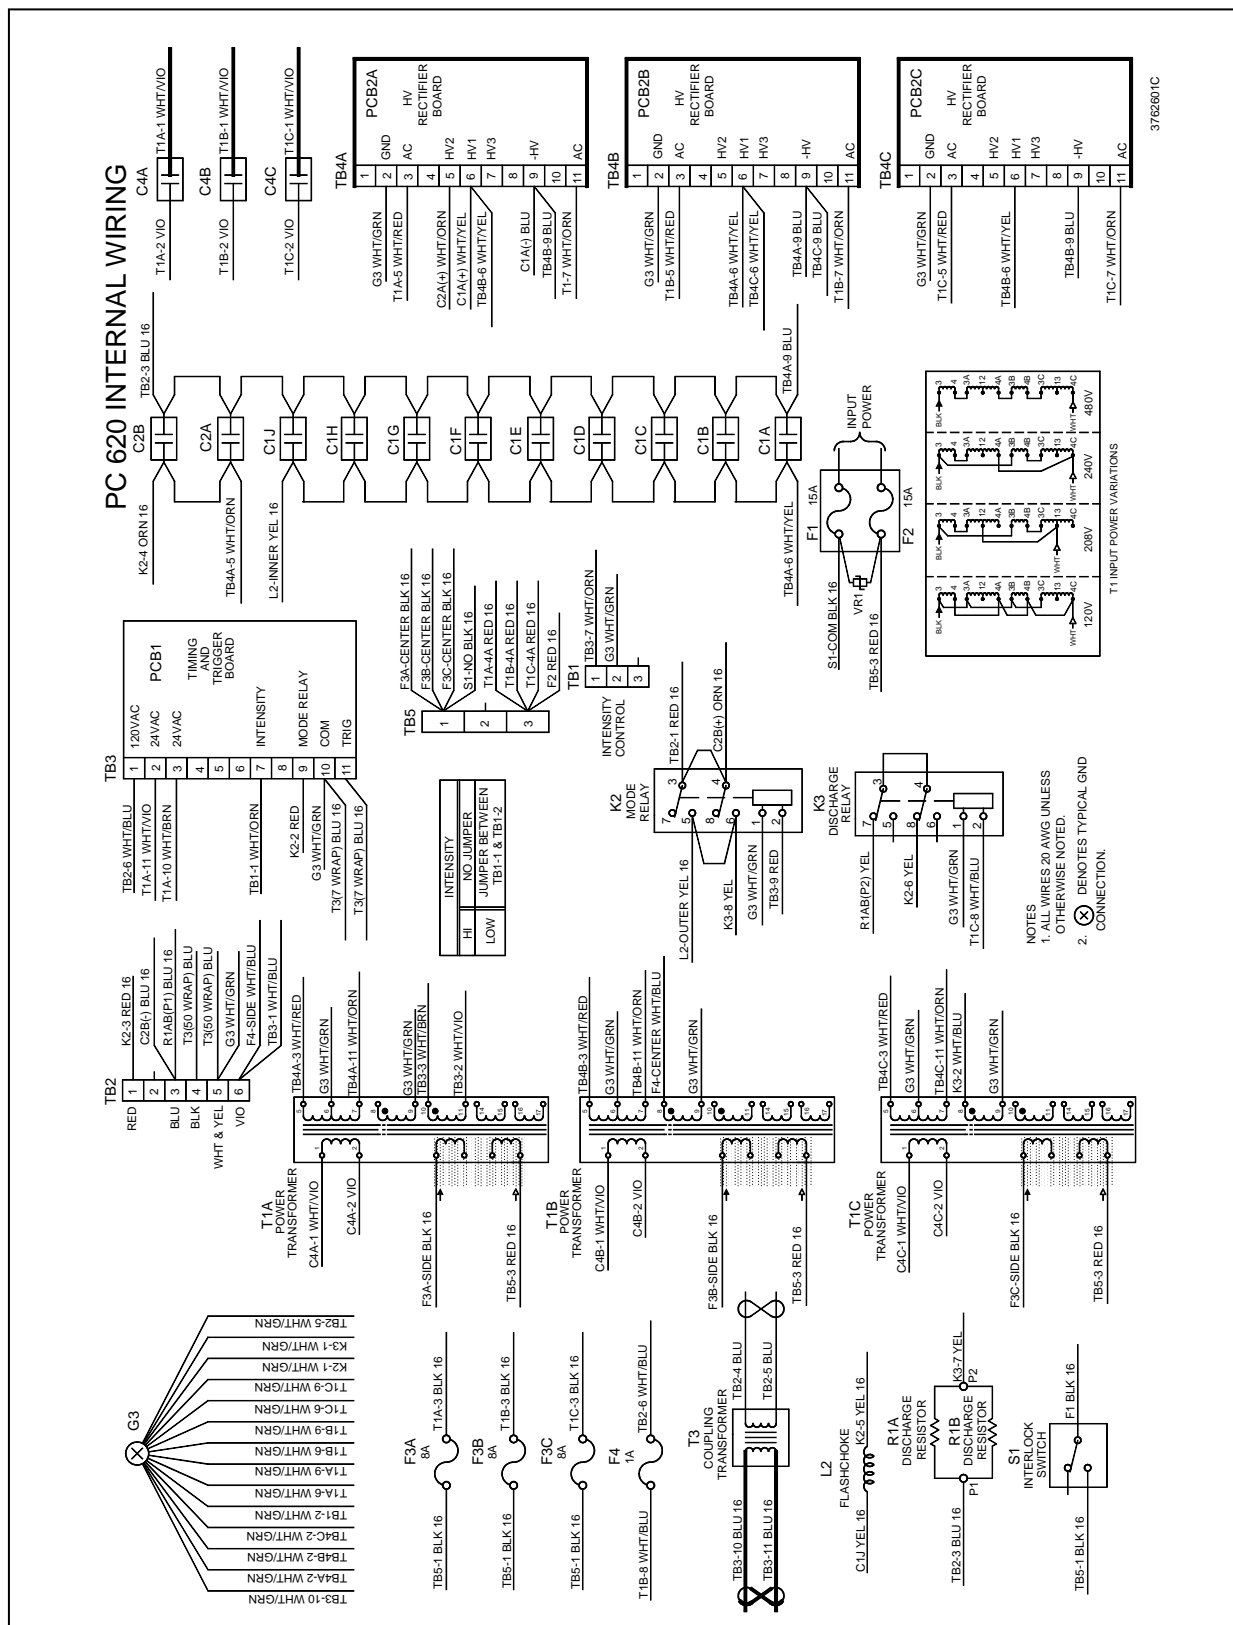

Figure 2-5 Power Converter Internal Wiring
A power converter component location diagram is provided in *Figure 4-1*. A flashhead component location diagram is provided in *Figure 4-2*. A flashhead electrical wiring diagram is provided in *Figure 2-6*. A power converter internal wiring diagram is provided in *Figure 2-5*.
2. Verify that wiring is in accordance with the wiring diagram in *Figure 2-5*. Wires must be replaced exactly as removed. In some instances, a quick-connect wire terminal does not seat properly if it is not placed on the terminal cluster exactly as it was before removal. This occurs by interference between the insulation on the wire terminal and the insulation surrounding their terminal cluster on the capacitor.
2. Verify that wiring agrees with *Figure 2-5* and restore the wire routing to its original position.